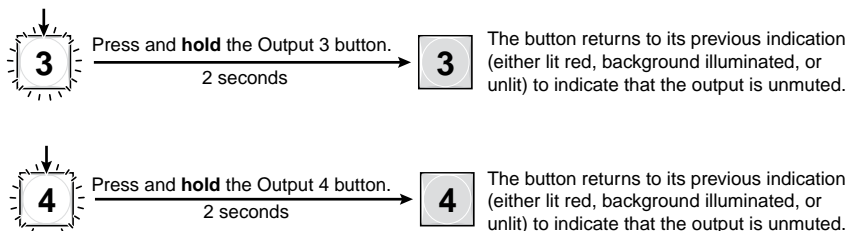

Figure 3-48 — Unmute the outputs
5. **One at a time**, press and **hold** the Output 3 button and then the Output 4 buttons (figure 3-48) for approximately 2 seconds until each button returns to its previous state. The output 3 and output 4 audio or RS-232 signals are unmuted.